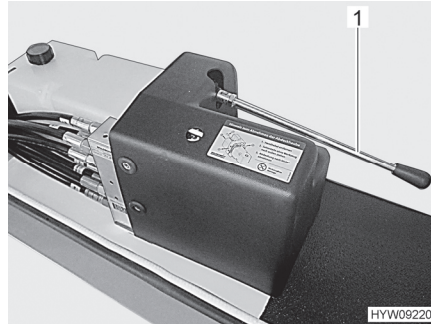

Fig. 46 Lever (emergency release)
- Retract the steady leg with the hand pump. To do this, pump with the lever (Fig. 46,1) until the steady leg is retracted.